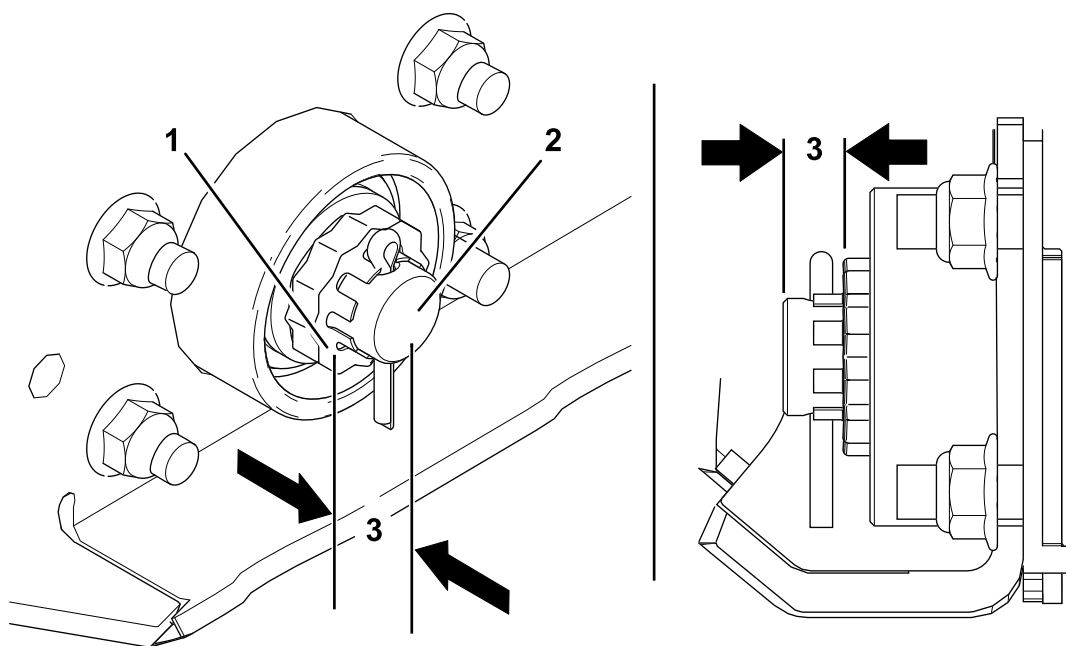

Figure 4
7. On one end of the roller shaft, install the nut and locknut until there is 9.5 mm (3/8 inch) between the face of the locknut and the end of the roller shaft (Figure 4).